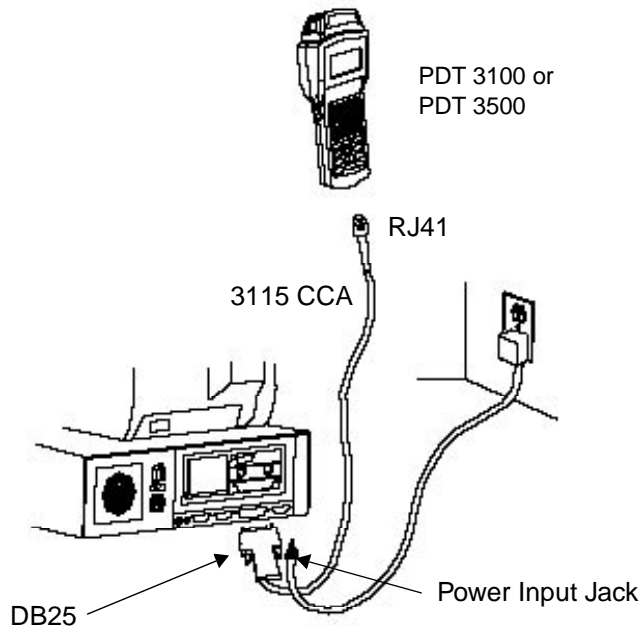

Figure 4-15. Connecting the 3115 CCA for Communications
1. Plug the 10-pin RJ-41 connector into the base of a Series 31XX/35XX terminal (refer to Figure 4-15).